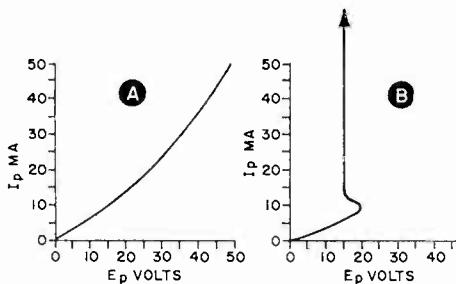

FIG. 2. The  $E_p$ - $I_p$  curve for a vacuum diode (A), and the curve for a gas-filled diode (B).
at 100 Kc it dropped to only —2.3 DB. At the full 35 watts output there is only a —.4 DB drop at 20 cps and 20 Kc with, of course, 0 DB between these points. Both channels were within .45 DB of each other with one slightly better than the other. The above figures as well as those in Fig. 2 are from the worse channel!
**Fig. 2. Frequency response of the Eico HF-87.** The first column is the test frequency; the second, the variation in DB at the 1 watt level; and the third shows the variation in DB at the full 35 watt output. See text.
Once the gas in the tube ionizes, the voltage drop across the tube becomes almost constant regardless of the current flowing through the tube. Fig. 2 compares the  $E_p$ - $I_p$  curve for a vacuum diode and a mercury-vapor diode. Notice that for the vacuum diode (Fig. 2A), the plate current  $I_p$  varies almost directly with the plate voltage  $E_p$ . As plate voltage is increased, plate current will continue to increase until the tube reaches saturation.